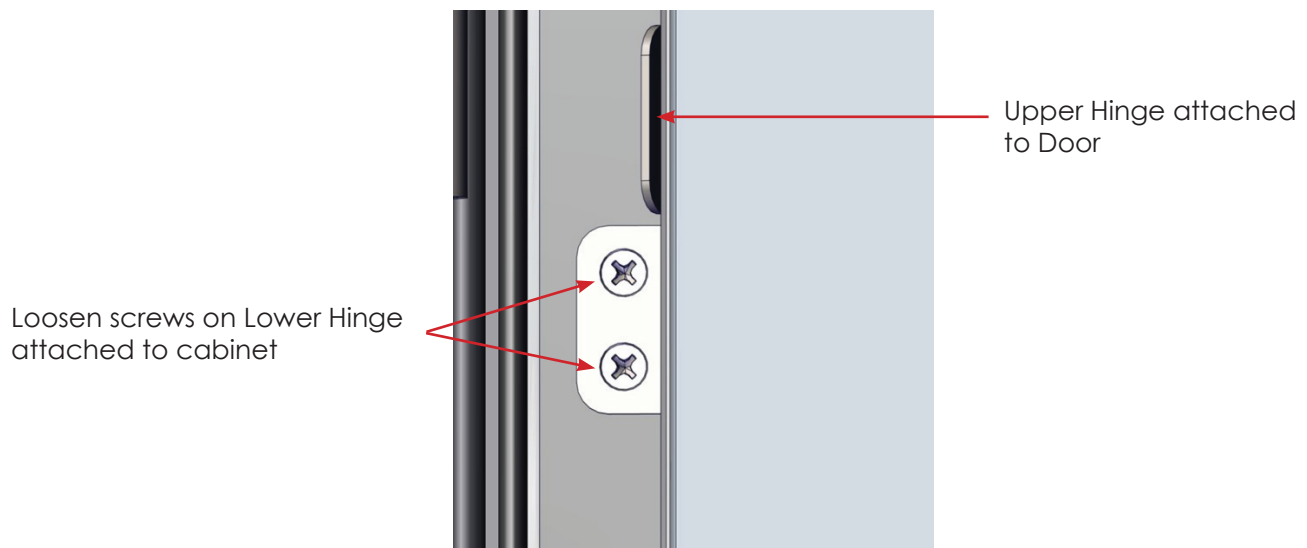

Fig. 20: Loosen Hinge Screws
1. Open one door fully and loosen the screws on the hinges that attach to the sides of the cabinet (2 screws per hinge) (Fig. 20)